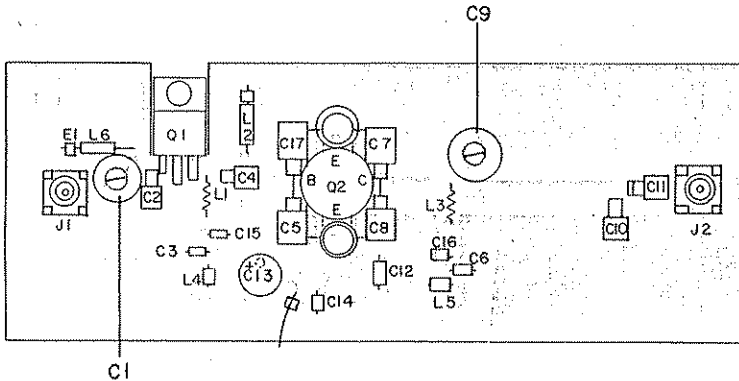

Figure 5-7
- Reconnect the exciter to the RF Amplifier. Refer to figure 5-7 for the location of tuning adjustments.